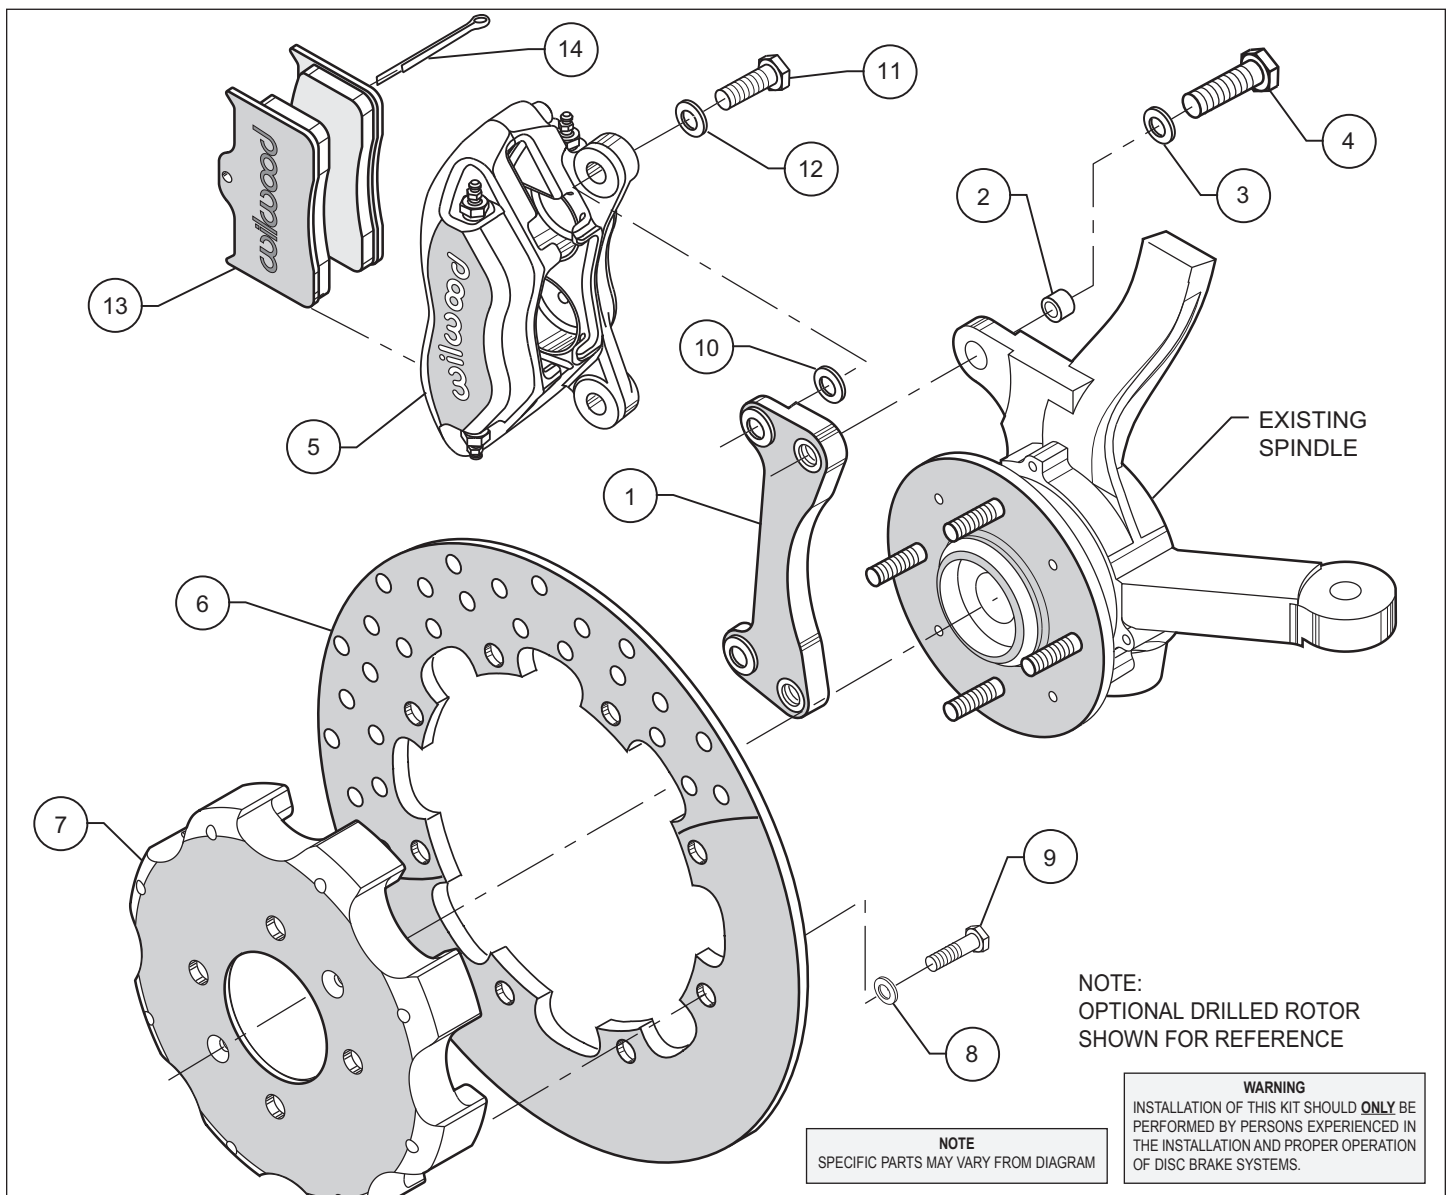
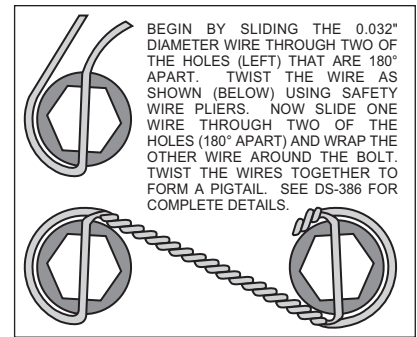

Figure 3. Typical Installation Configuration, Left Hand Application Shown
Figure 4. Safety Wire Diagram
•Insert one sleeve (2) each into the holes on the top and bottom of the spindle “ears” where the OEM caliper bracket was removed. Apply red *Loctite*® 271 to the caliper mounting bracket bolt threads (4) before installation of the caliper mounting bracket (1). Install the caliper mounting bracket (1) with the threaded inserts and the beveled bolt holes facing the outside of the vehicle. Slide bolt (4) through washer (3) into the previously installed sleeve (2) from the backside of the spindle. Finger tighten. Repeat for the lower mounting hole. Torque bolts to 30 ft-lb. **NOTE:** Be sure the heads of the caliper bracket (1) insert nuts are facing outward toward the wheel.
•Attach the hat (7) to the rotor (6) using washers (8) and bolts (9) as shown in Figure 3. Using an alternating sequence, remove bolts (9) one at a time, apply red *Loctite*® 271 to bolt threads, and torque to 120-144 in-lb. Safety wire bolts (9) using standard 0.032 inch diameter stainless steel safety wire as shown in Figure 4. Please refer to Wilwood’s data sheet DS-386 (available at www.wilwood.com/Pdf/DataSheets/ds386.pdf) for complete safety wire installation instructions. Slide the rotor/hat assembly onto the spindle. Install three lug nuts (finger tighten) to keep the rotor/hat assembly in place while continuing with the installation.